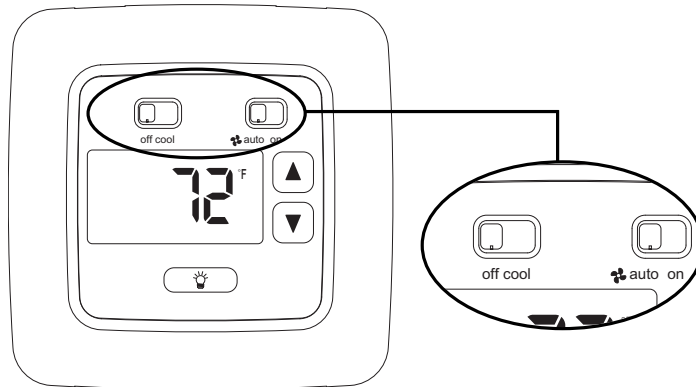

Figure 2
2. Place OFF-COOL in OFF position (Figure 2).
3. Place  AUTO-ON switch into AUTO position (Figure 2).